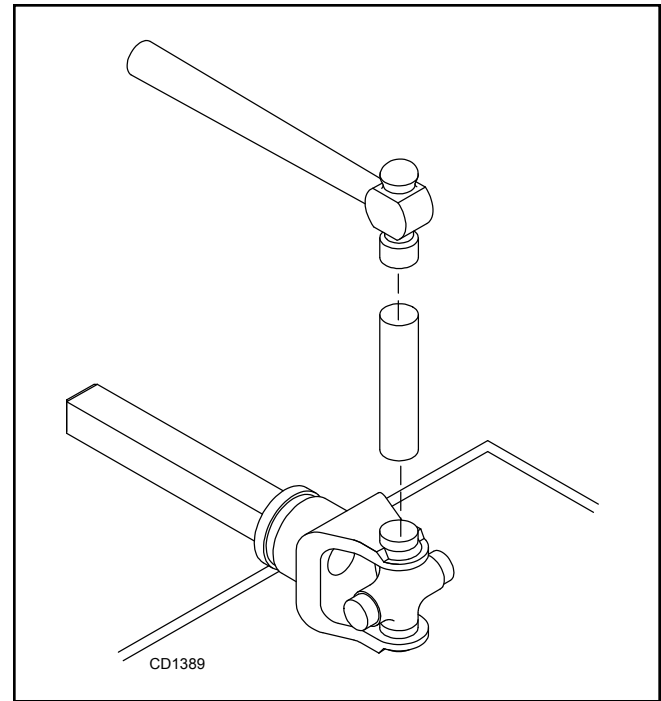

Figure 35. Install Bearing Cups
3. Seat cups by placing a drift or socket (slightly smaller than the cup) on cup and rap with a hammer. See Figure 35. Install snap ring and repeat on opposite cup.